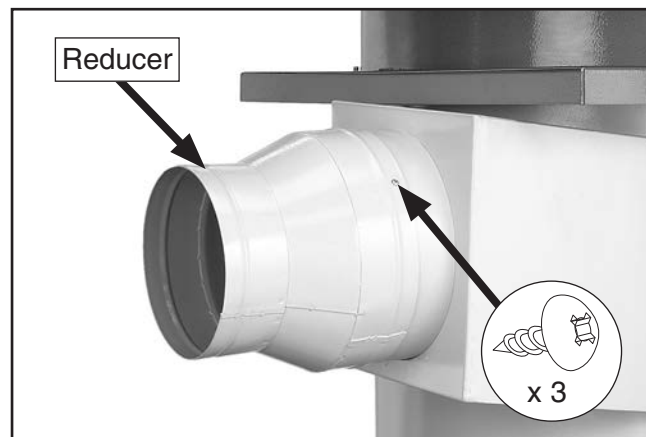

Figure 35. Reducer installed.
41. Slide reducer over inlet port on barrel (**Figure 35**) and secure with (3) M4 x 12 sheet metal screws.